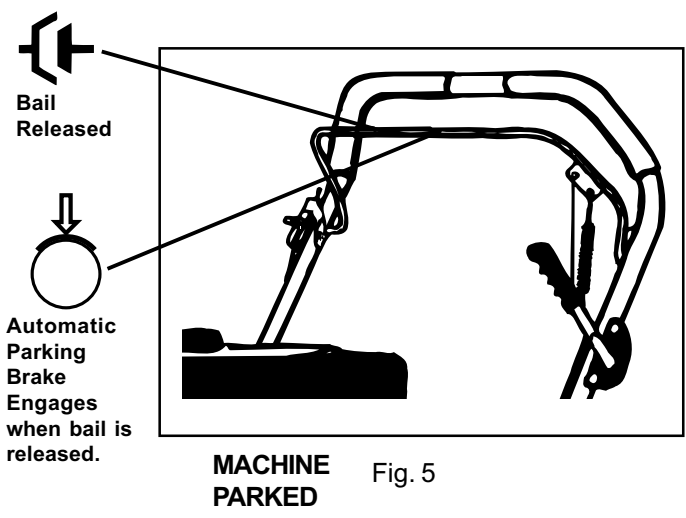

Fig. 5
**PROPULSION:** QB1601 self-propelled blowers are equipped with 5 forward gears, neutral and reverse. (see TABLE 1 below) With the engine running, and the bail in released position select desired drive gear.(see Fig. 4) Pull bail against handle to automatically release brake and engage drive (see Fig. 5). Smoothly engage the bail.
With operator's bail released, move shift lever past neutral stop, by pulling the shift lever back and moving it to the right, into "Reverse" gear position. Then smoothly pull operator's bail against handle. Release bail to stop (see figure 5).